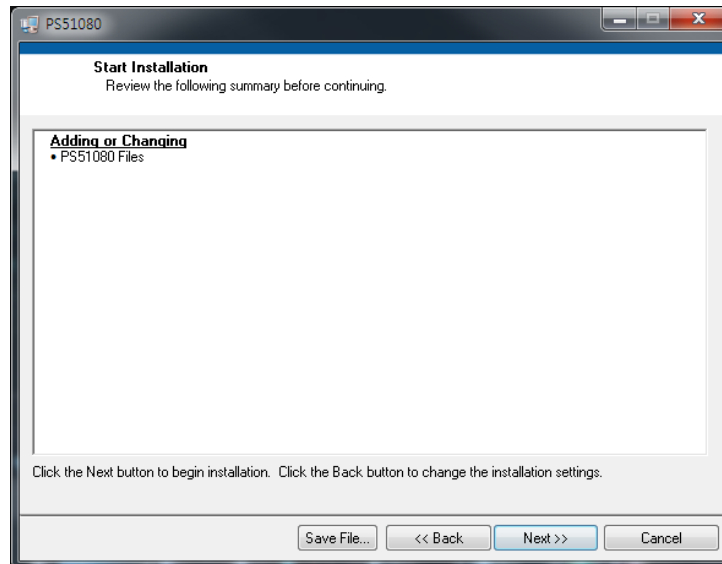
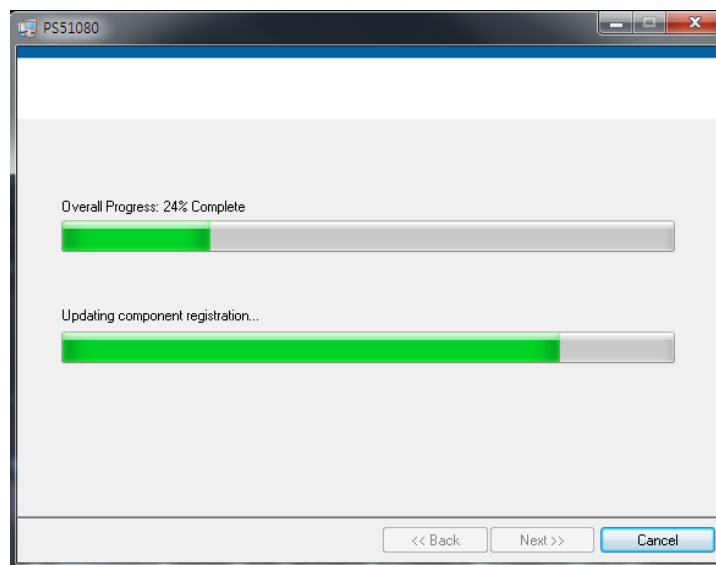

Figure 7-3: Click Next to Begin Installation
Figure 7-4: Installation Progress Window
4. When the window shown in Figure 7-3 displays, click **Next**. The progress window, Figure 7-4 displays.